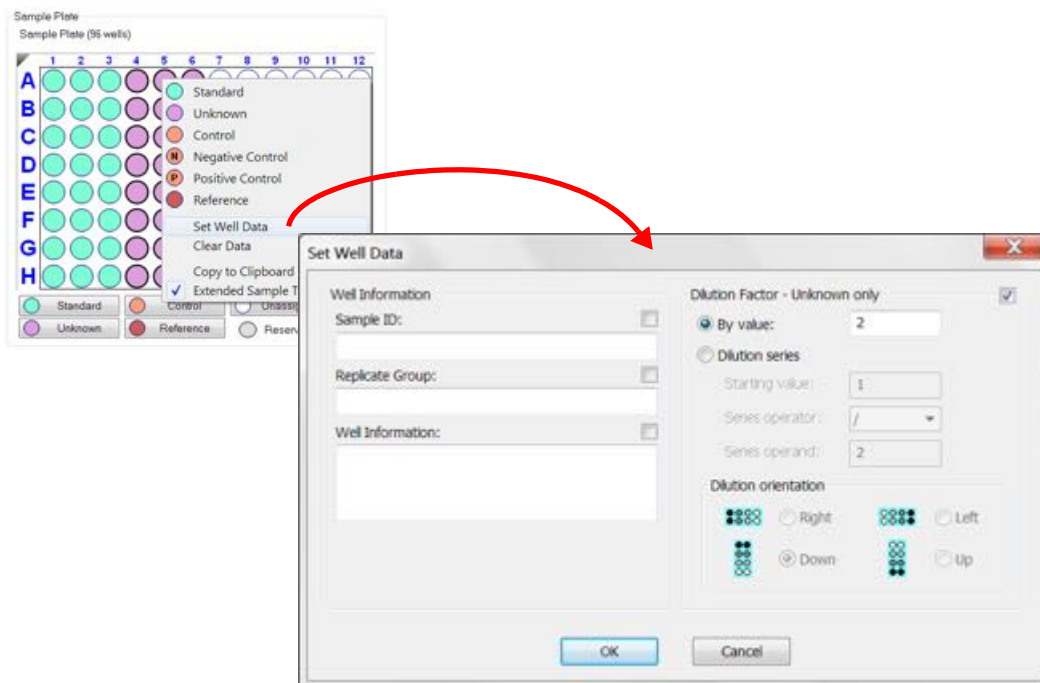

Figure 6-10: Sample Plate Map—Setting a Dilution Factor or a Serial Dilution
The **Set Well Data** dialog box displays (see Figure 6-10).
1. In the **Set Well Data** dialog box (see Figure 6-10), select the **By Value** option.
1. In the **Set Well Data** dialog box (see Figure 6-10), select the **Dilution series** option.
1. In the **Set Well Data** dialog box (see Figure 6-10), double-click a cell in the **Dilution Factor** column for the desired unknown.